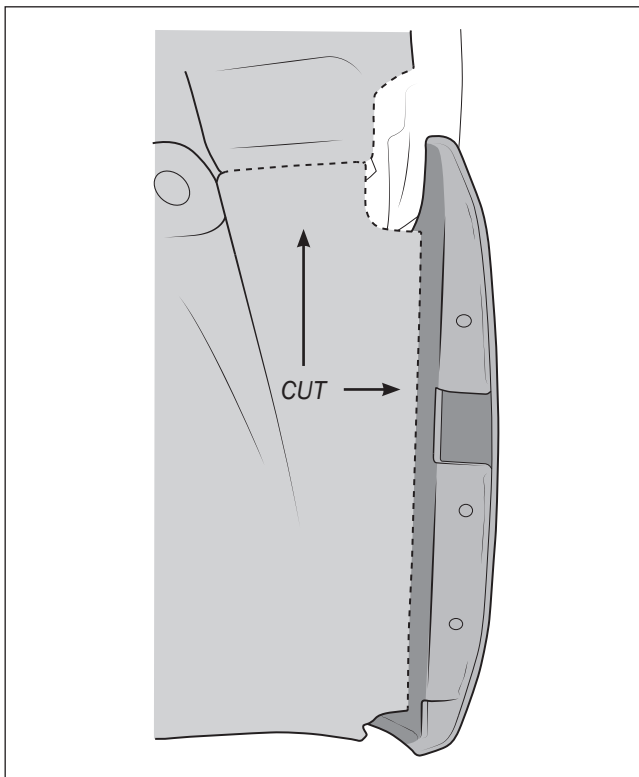

Figure 41
3. Trim the front edge of both inner fender liners to provide approximately 1/2" gap between the liner and the bumper corner (fig. 41).